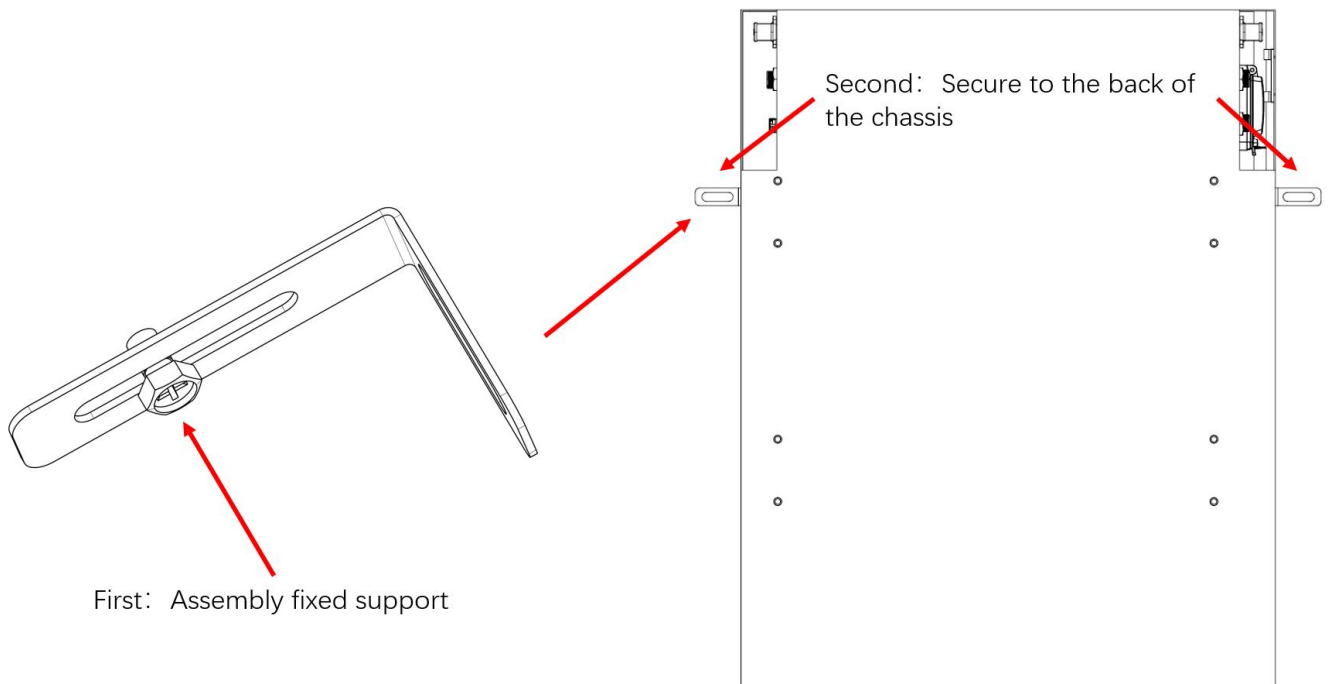

Figure 5-4
c) Use the 2 screws of M6 to fix the left and right retaining ears to the back of the battery, as shown in Figure 5-4.